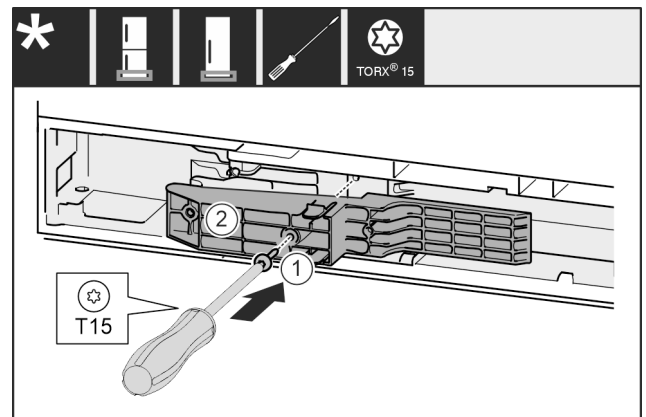

Fig. 51 \*
- ▶ Insert the adapter piece Fig. 51 (1) on the handle side into the recess.\*
- ▶ Tighten the screw Fig. 51 (2) with the screwdriver.\*